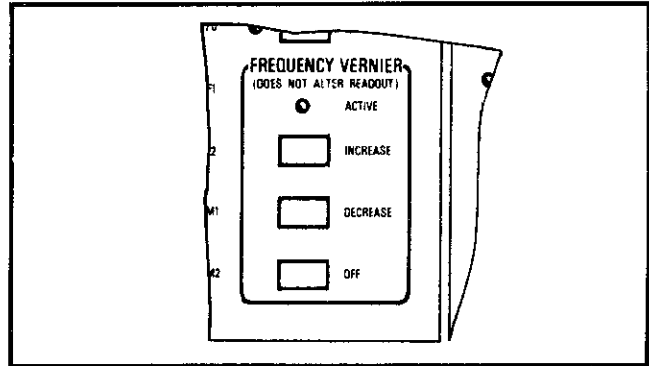

Figure 3-12. FREQUENCY VERNIER Controls
c. **FREQUENCY VERNIER Pushbuttons** (Figure 3-12). These pushbuttons may be used to make fine adjustments to (1) output frequency in the selected CW mode or (2) center frequency in the selected ΔF mode. The frequency resolution achievable using these pushbuttons is ± 100 kHz for all models except the 6642A, 6653A, and 6659A. For these three models, resolution is ± 200 kHz. Individual pushbuttons are described below.